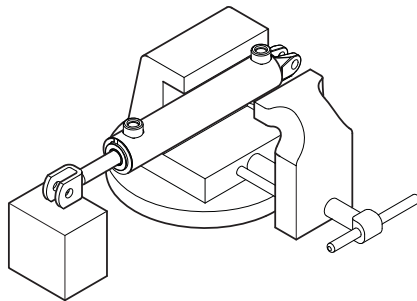

Figure 5-3, Cylinder Vise
2. Clamp the cylinder lightly at the base end using a soft-jawed vise. Use a block or other support under the rod end of the cylinder. (Figure 5-3)